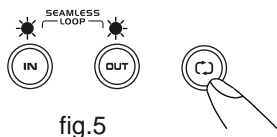

fig.5
- e- To replay loop, press the RELOOP button. IN/ R.CUE and OUT LED and LOOP INDICATOR in LCD DISPLAY will all begin flashing again (figure 5).